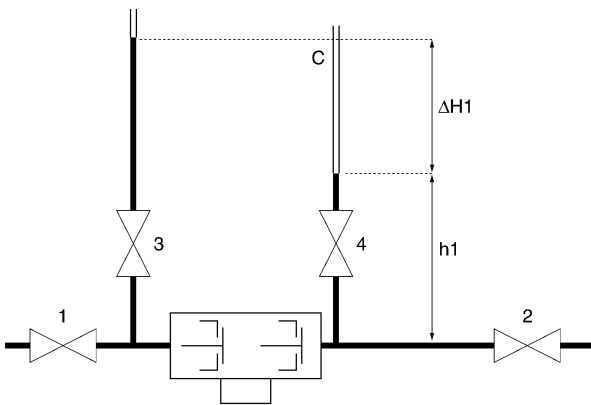

Figure 30A
- (1) Remove or foul the upstream check valve and ensure that the relief valve outlet is watertight.
- (2) Mount the device in the test system in its normal working position.
- (a) Set up the device to be tested as shown in Figure 30A. The maximum inside diameter of the level tubes shall be 10 mm.